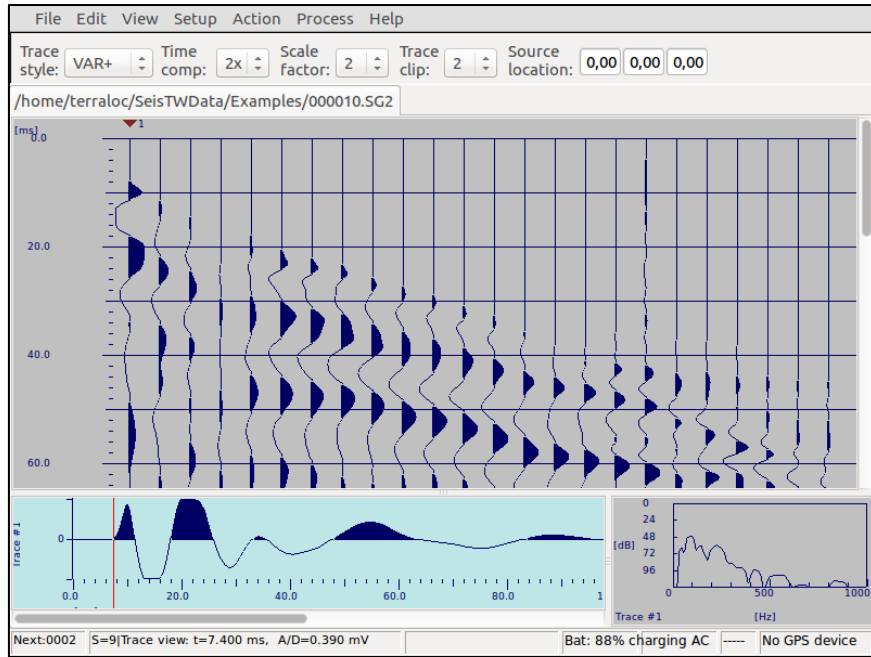

Figure 26 The red timeline
- Moving a timeline across the view (Figure 26)